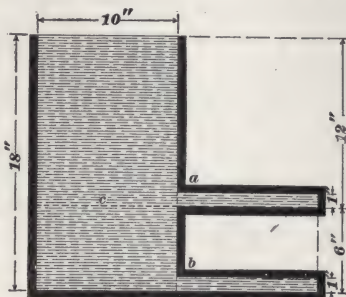

FIG. 6.
**13. Lateral (Sidewise) Pressure.**—Suppose the top of the vessel shown in Fig. 6 is 10 inches square and that the projections at  $a$  and  $b$  are 1 inch square.